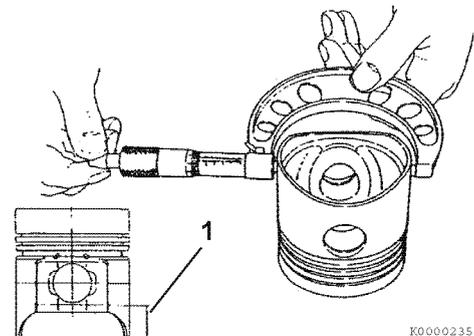

Figure 6-71
4. Measure the diameter of the piston skirt at 90° to the wrist pin bore as shown (Figure 6-71). Measurements must be taken at a specified distance (1, Figure 6-71) from the bottom of the piston, based on engine model. Record the measurements. See Piston on page 6-10 for specifications.